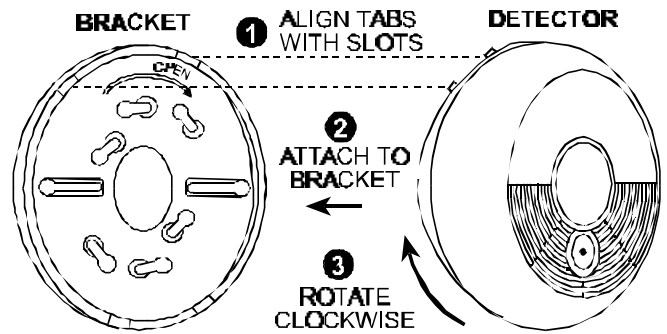

Figure 8. Final Assembly
- 3rd. Attach the detector to the bracket as shown in Figure 8. Pull outward to make sure that the detector is securely attached to the bracket.